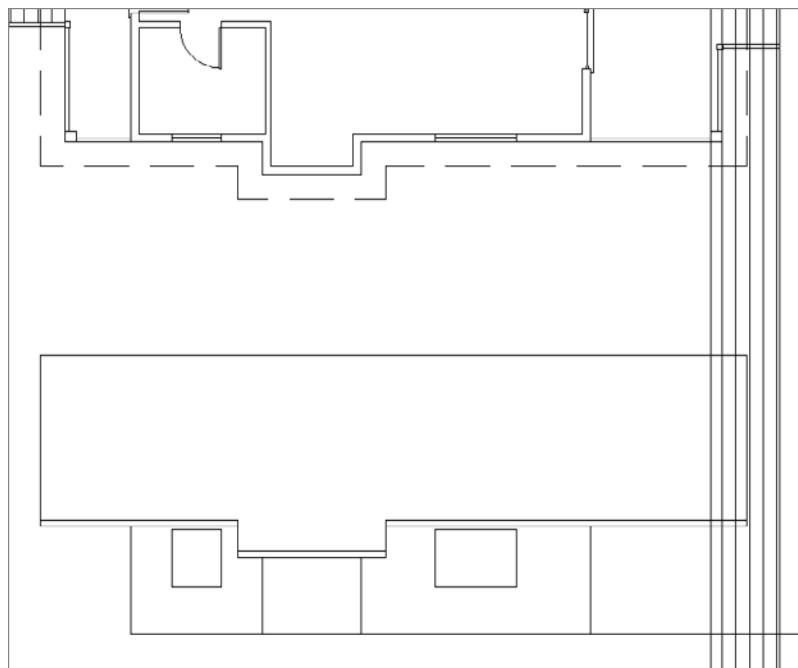

FIGURE 10.18 Vertical construction lines drawn from deck post, stairs, and railings
3. Start the XLINE (Construction Line) command; choose the Vertical option; and draw lines from the corner post, the stairs, and the end of the railing in the floor plan, as shown in Figure 10.18.